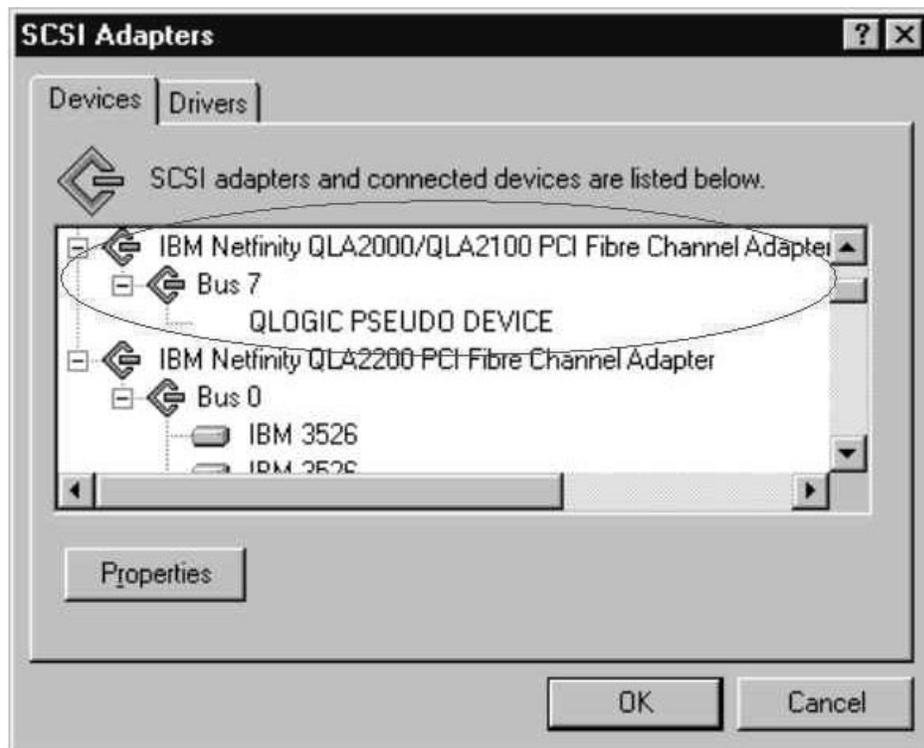

Figure 126. SCSI Adapters
1. Windows NT comes up to the blue screen and reports the first two lines (version, number of processors, and amount of memory). Windows NT takes a very long time to start. The SCSI Adapters applet in the Control Panel displays the window shown in Figure 126 for the 2100: